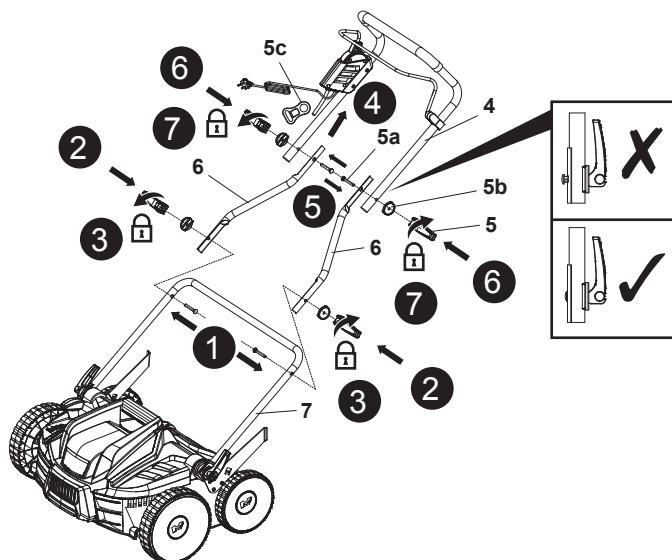

Fig. 2
5. Align the mounting holes of the middle handle bar (6) with the lower handle bar (7) and hold it in place, then pass the mounting bolt (5a) through the mounting holes (Fig. 2, step 1).
6. Check the orientation of flanges (5b) and align their slots onto one of the middle handle bars (6), then attach the clamp lever (5) onto the mounting bolt (5a) (Fig. 2, step 2).
7. Secure the handle assembly by folding up the clamp lever (5) towards the middle handle bars (6). If clamp lever (5) cannot be folded, loosen it and fold again. If it is too loose, tighten it by turning the clamp lever (5) clockwise (Fig. 2, step 3).
8. Repeat the same steps (5-7) to fix the other middle handle bar (6).
9. Slide the cord retainer (5c) on the upper handle bar (4) on the switch side (Fig. 2, step 4) and keep it in position, then align the mounting holes of the upper handle bar (4) with the two middle handle bars (6) and hold it in place, then pass the mounting bolt (5a) through the mounting holes (Fig. 2, step 5).
10. Make sure that the interconnection cord (18) runs on the upper side of the handle bars (4, 6, 7).
11. Check the orientation of flanges (5b) and align their slots onto the upper handle bar (4) firstly, then attach the clamp lever (5) onto the mounting bolt (5a) (Fig. 2, step 6).
12. Secure the handle assembly by folding up the clamp lever (5) towards the upper handle bar (4). If clamp lever (5) cannot be folded, loosen it and fold again. If it is too loose, tighten it by turning the clamp lever (5) clockwise (Fig. 2, step 7).